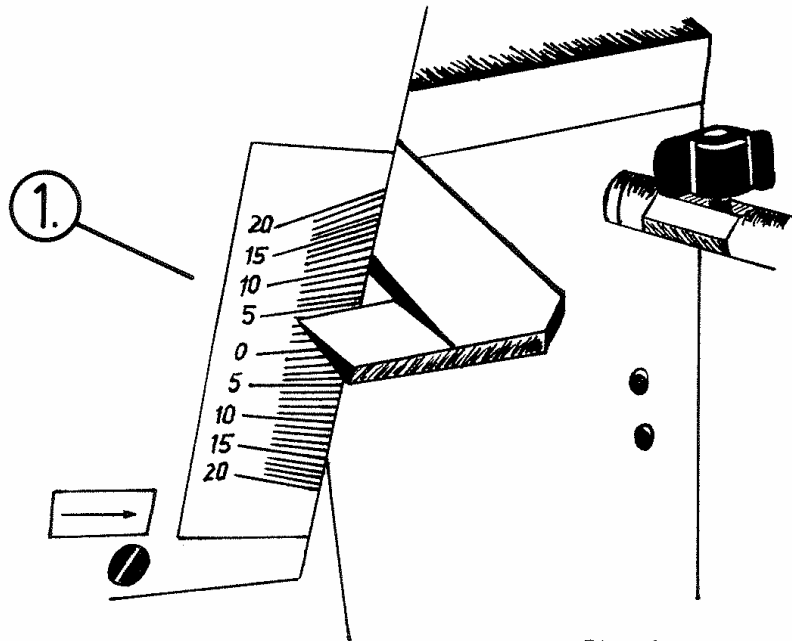

Fig. 6
1. Swivel the grinding unit to 10° (Fig. 6). Swivel to the right or left depending on whether the knife is in the front or back row of holes.